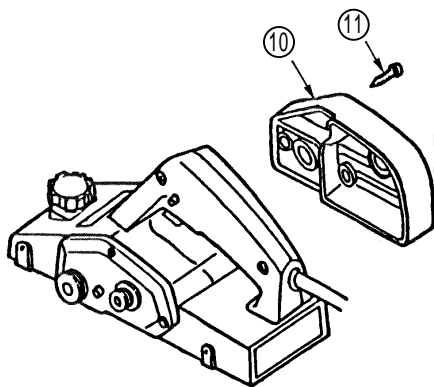
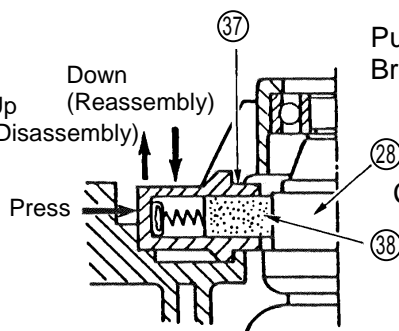

Fig. 3
Fig. 4
#### (2) Removal of the Carbon Brushes: (Figs. 3, 4 and 5)
- Loosen the three D4 x 16 Tapping Screws (11), and remove the Tail Cover Ass'y (10).
- To remove the Brush Holders (37), as illustrated in Fig. 4, gently lift the Brush Holders upward while pressing their rear portions toward the commutator surface of the Armature (28). At this time, be very careful not to pull out excessively on the Internal Wires (A) (19).
When reassembling the Carbon Brushes (38) and Brush Holders (37), please refer to Figures 4 and 5, above.